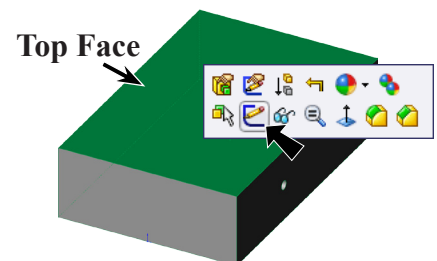

Fig. 9
Step 1. Click the **top face** and click **Sketch**  on the Content toolbar, **Fig. 9**.